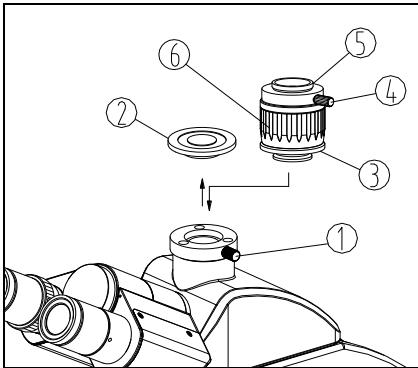

Fig.21
1. Loosen the lock screw ① of trinocular head, and take out the dust-cover ② (See Fig.21).
2. Take down the dust-cover of the TV adapter ③. Insert the TV adapter into the trinocular head as shown in the figure and screw down the lock screw ①.
3. Loosen the lock screw ④ of the TV adapter. Take down the vidicon interface (C type) ⑤ from the TV adapter, and screw into the CCD or vidicon. Then install the interface into the TV adapter, and screw down the lock screw ④.
4. For binocular observation, observe CCD image when the image is clear. If the image is unclear, rotate the adjustment tube ⑥ until it is clear.